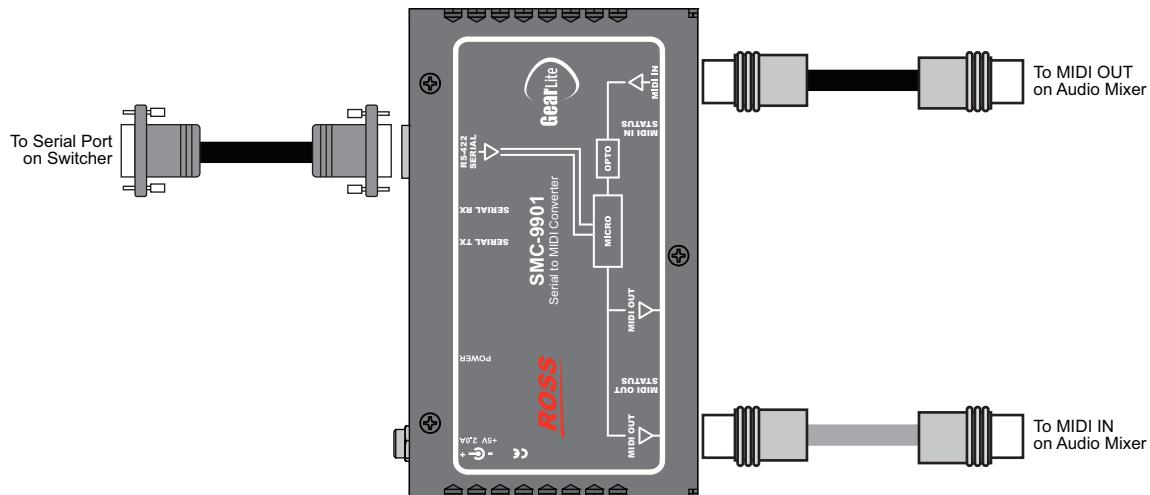

Figure 5.1 Audio Mixer to a Ross Video Switcher using the SMC-9901
1. Connect and secure the **9-Pin, Male**, end of the **Interface Cable** to the **RS-422 Serial** port on the SMC-9901 **Figure 5.1**.